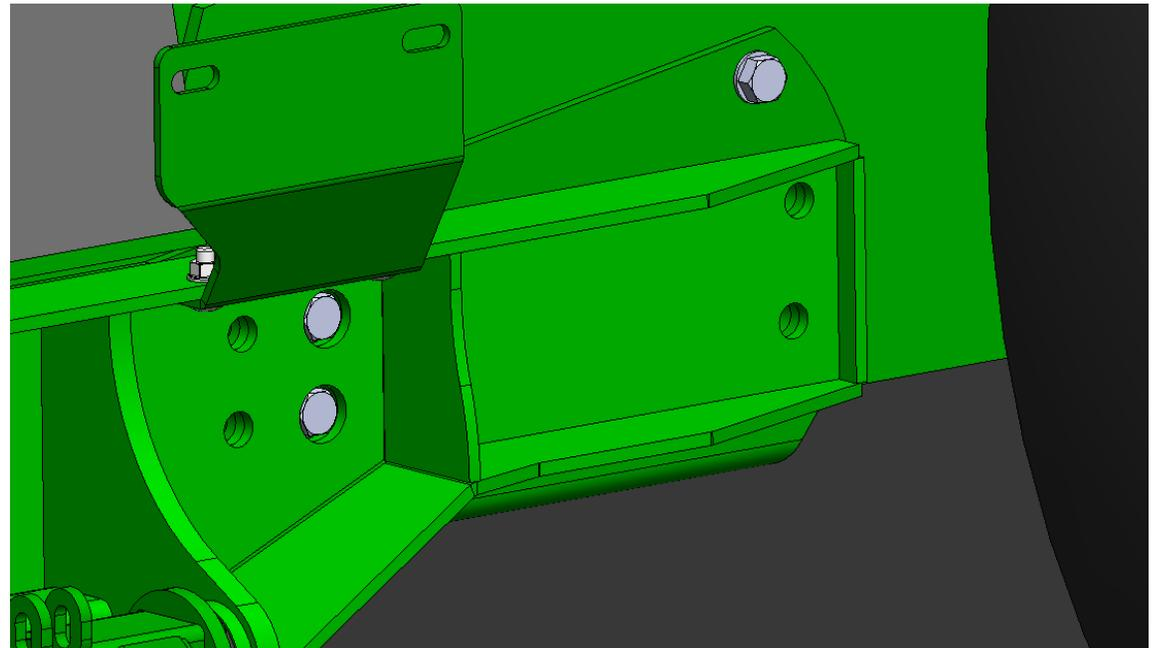

Figure 2
2. Remove the four outside frame bolts (in front of the front tire) and leave the center two bolts in place. (Shown in Figure 2). The mount will fit over the center bolts to be left tight to support the front weights.